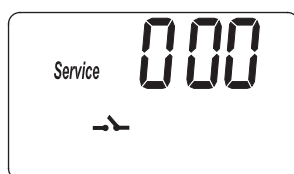
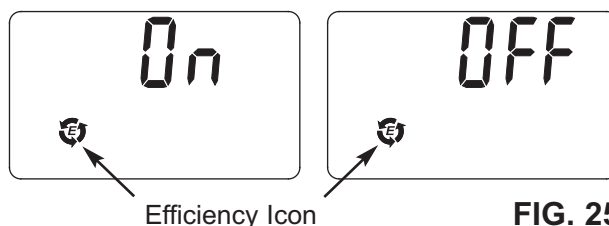

FIG. 24
FIG. 25
1. Press and hold the PROGRAM button until the screen in Figure 24 is displayed. Once in this display, press the PROGRAM button once and one of the two displays in Figure 25 is shown.